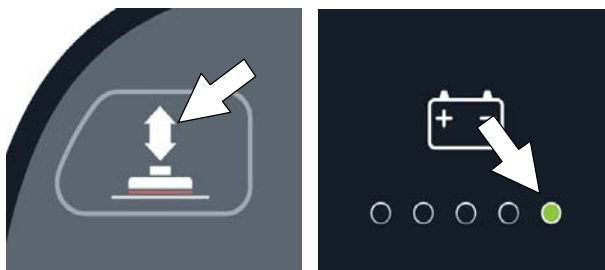
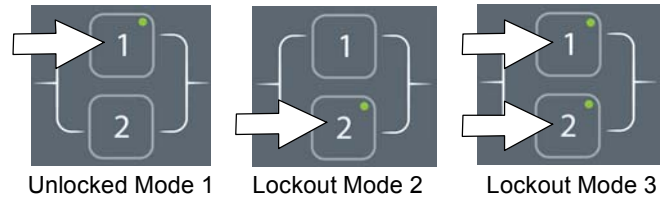

FIG. 151
FIG. 152
1. Park the machine on a level surface and turn the key to off (O) position.
2. Press and hold the brush pressure button while turning the key on. Release button when the far right battery discharge indicator LED turns on (Figure 151). After releasing button, the active supervisor control mode will display as described in step 3 (Figure 152),
3. To select or change a supervisor control mode, press and hold the specific zone control button until the LED blinks three times (Figure 152). For lockout mode 3, press and hold zone control buttons 1 and 2 at same time. After selection is made, the LED will turn solid to indicate new mode.